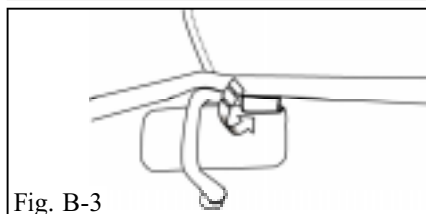

Fig. B-3
4. Attach one (1) plastic clip to the hood latch at the top of the hood (Fig. B-3.)